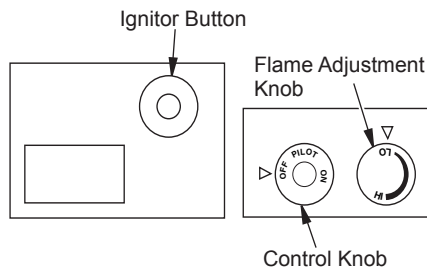

Figure 28 - Control Knob and Ignitor Button Location (Shown as Supplied, No Control Options)
- 5. Wait five (5) minutes to clear out any gas. Then smell for gas, including near the floor. If you smell gas, STOP! Follow "B" in the safety information, page 20. If you don't smell gas, go to the next step.
- 6. Press in and turn control knob counterclockwise ↻ to the PILOT position. Press in control knob for five (5) seconds (see Figure 28).